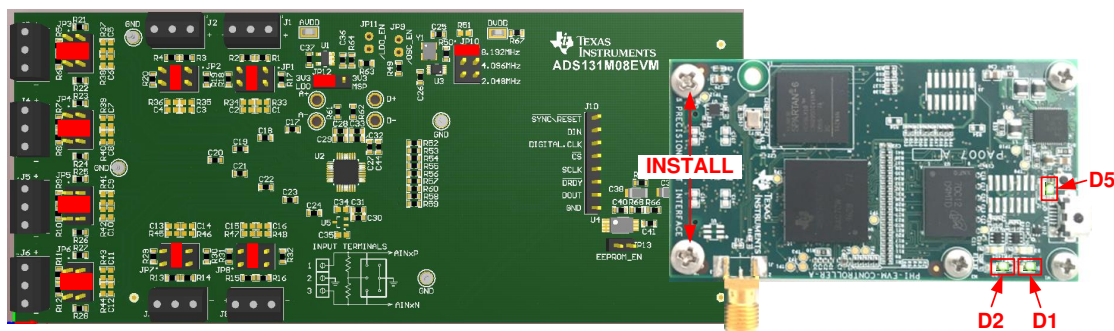

Figure 10. ADS131M08EVM Hardware Setup and LED Indicators
1. Connect the ADS131M08EVM to the PHI. Install the two screws as indicated in Figure 10.
- LEDs D1 and D2 on the PHI start blinking to indicate that the PHI is booted up and communicating with the PC; Figure 10 shows the resulting LED indicators